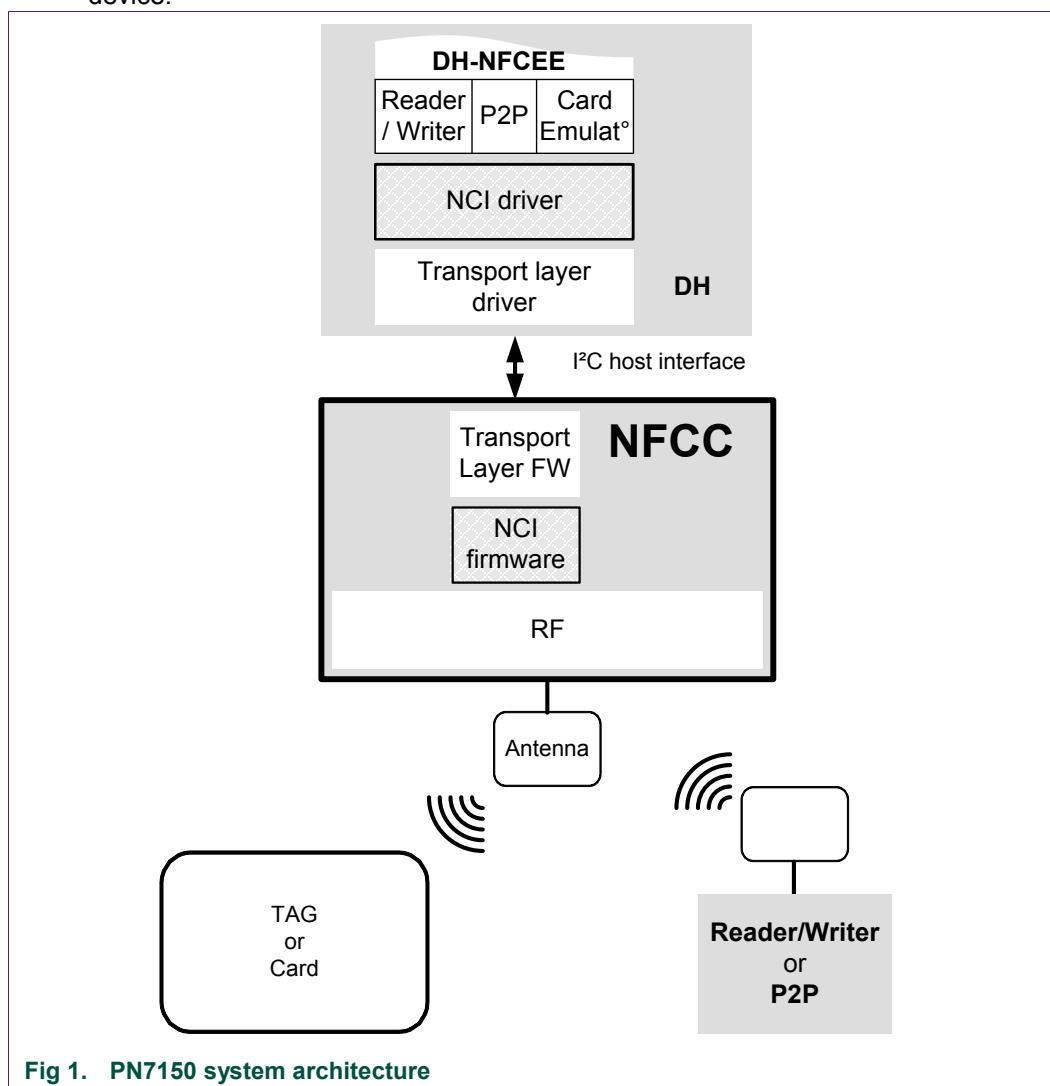

Fig 1. PN7150 system architecture
The PN7150 is an NFC Controller, which is briefly described in Fig 1:
- The top part describes the Device Host (DH) architecture with Higher Layer Driver (e.g. Android stack) hosting the different kind of applications (Reader/Writer, Peer to Peer, Card Emulation in the DH-NFCEE), the NCI driver & the transport layer driver.
- The PN7150 is the NFCC in the Fig 1. It is connected to the DH through a physical interface which is an I2C. The PN7150 firmware supports the NCI specification but also provides support for additional extensions that are not contained in the NCI specification. These additional extensions are specific to the PN7150 chip and are proprietary to NXP.